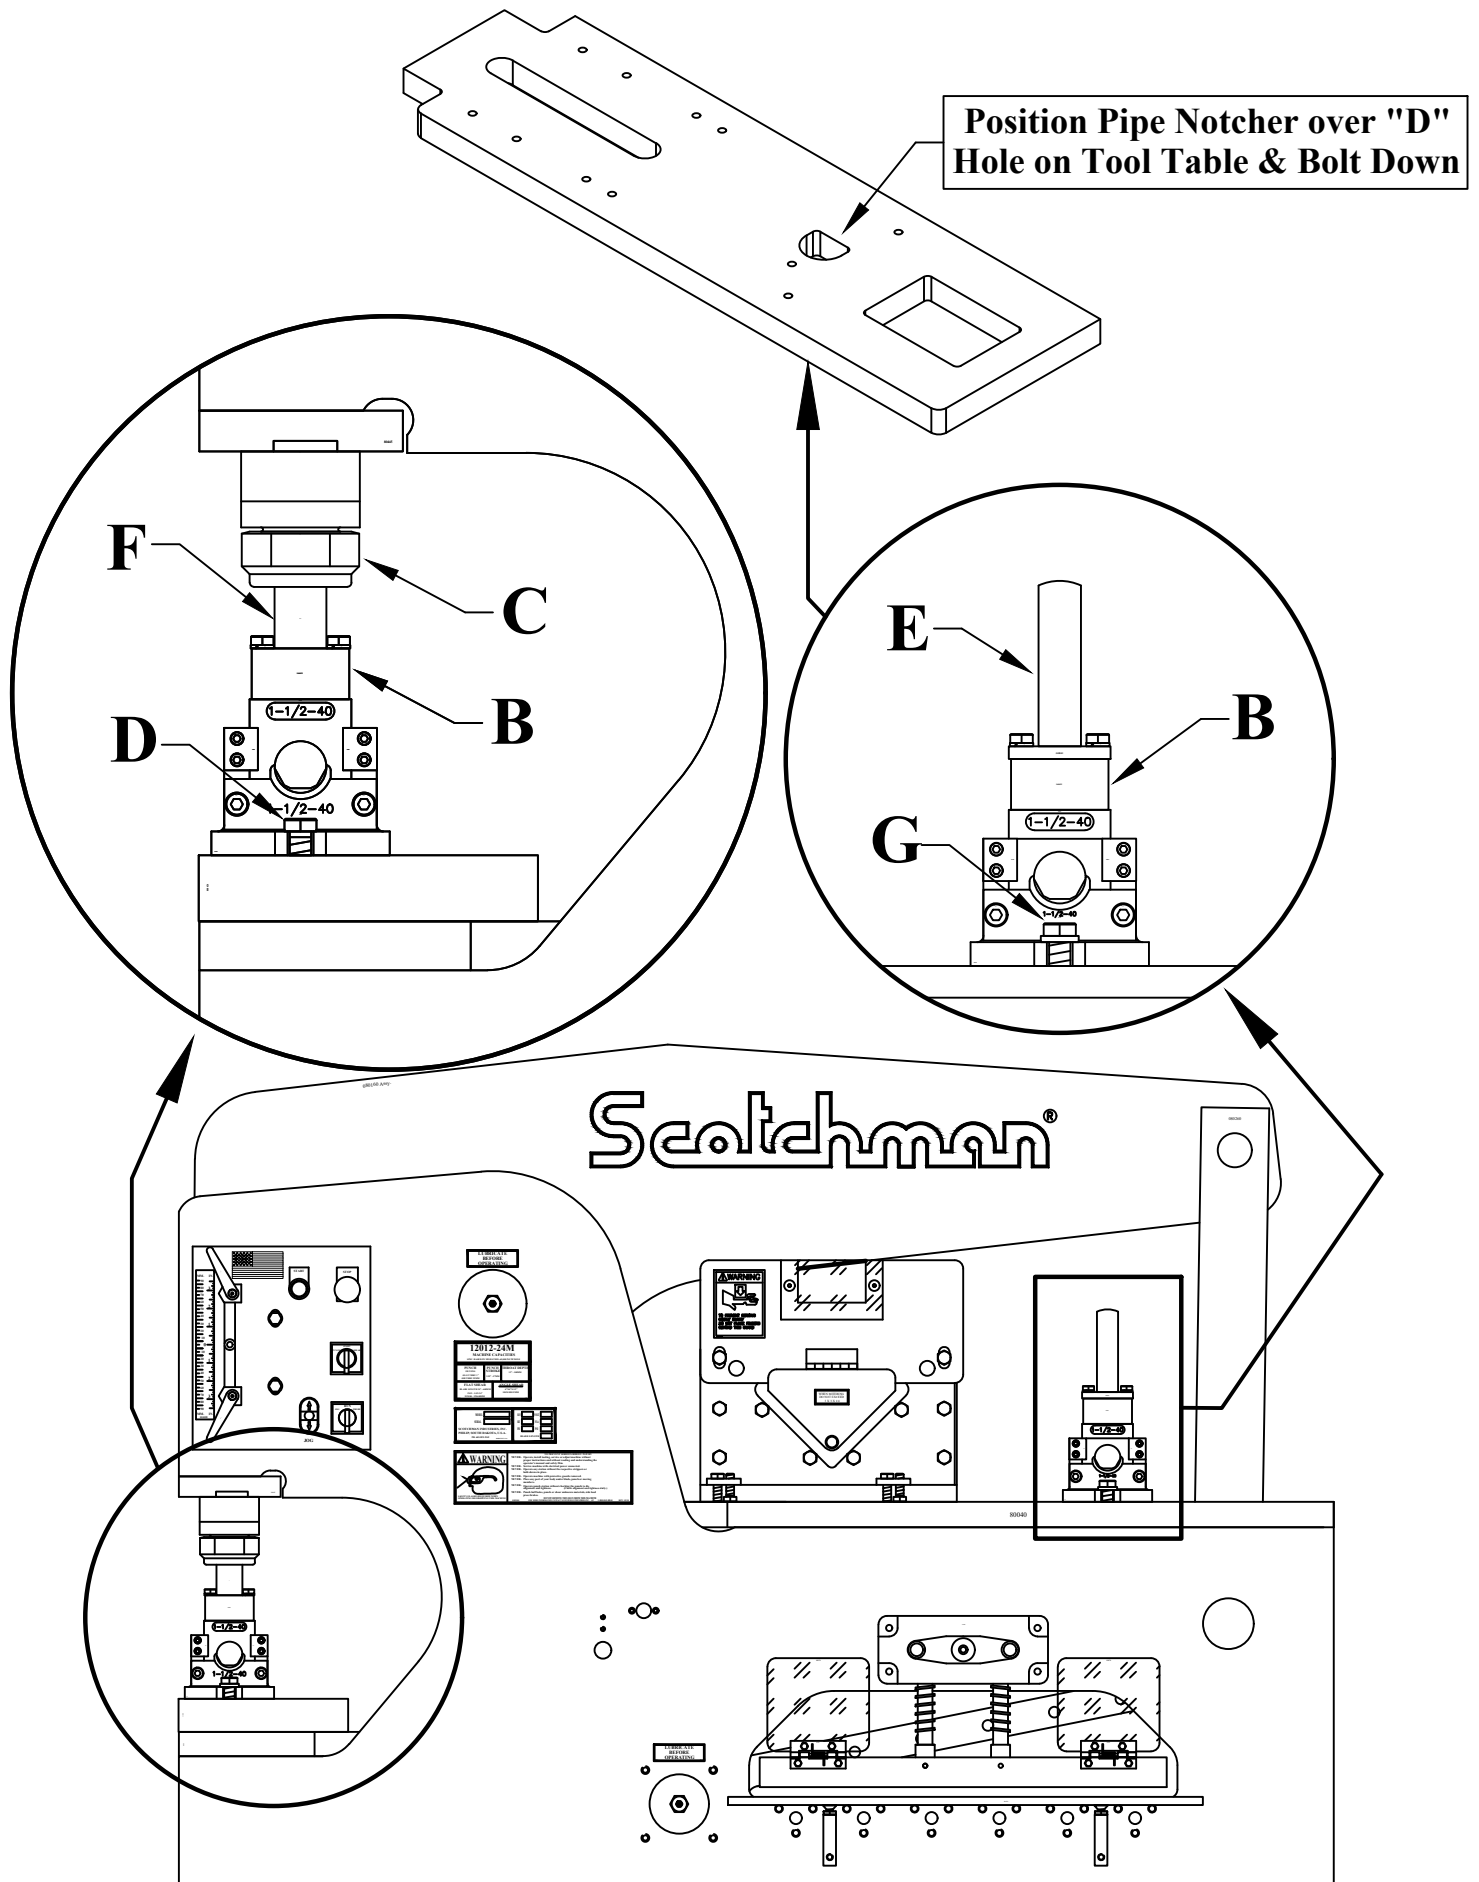

FIGURE 22
SEE FIGURE 22 ON THE FOLLOWING PAGE.
- 1. Attach the riser (B), Spacer (B1) and the pusher (E) to the tool using the two M10 x 70 bolts and lock washers. See "Tool Table Configuration" on the middle-right in FIGURE 22 on the next page.**
- 2. Align the tool over the "D" shaped slug hole in the tool table (as shown) and bolt it down to the tool table with the M12 bolt (G) provided.**